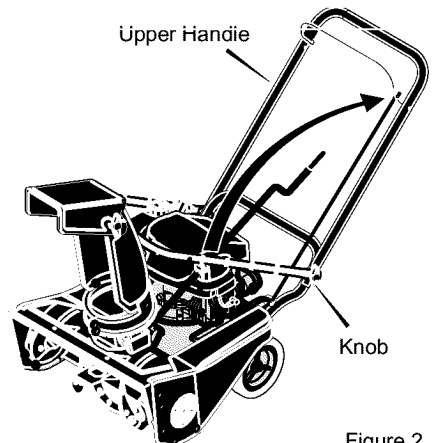

Figure 2
5. Loosen the knobs holding the upper handle to the lower handle (See Figure 2). Raise the upper handle to the operating position. Tighten the knobs.